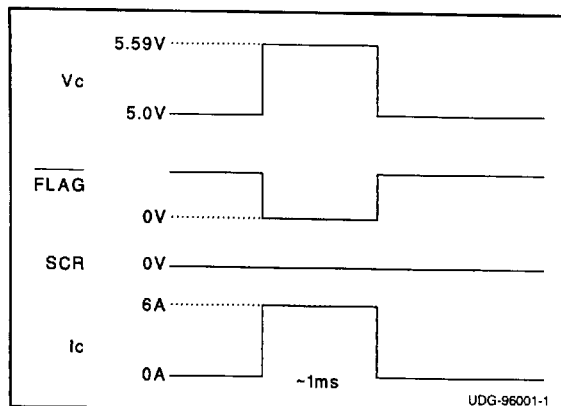
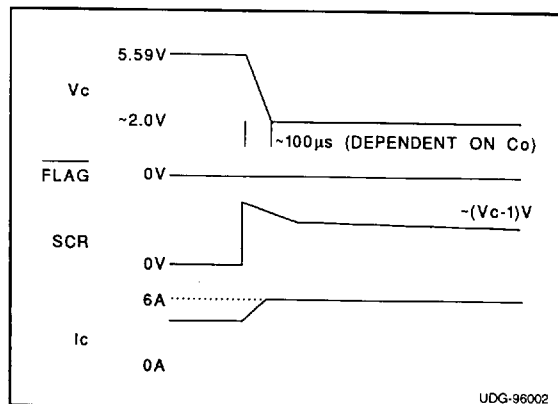

Figure 1. Shunt Regulation
Figure 2. Thermal Shutdown
Figures 1 - 4 illustrate typical behavior of the UC3908 under different operating conditions. In Figure 1, the part is made to shunt less than 17A (6A, in this example) during a short overvoltage situation and thermal shutdown and saturation are also averted. In this case, the part is shown regulating VC at a preset level which is set at 5.59V in the given design example. The FLAG output is low during this mode and SCR output is not activated. It is pulsed back down to zero after some duration to indicate that the external pulse has disappeared and the UC3908 becomes inactive again.
In Figure 2, the overvoltage condition of Figure 1 is shown to persist long enough for the internal thermal shutdown to be activated. As a result, the SCR output is asserted and the internal latch is also activated. The voltage (VC) is shown falling to about 2V which is the saturation voltage for the UC3908 at this level of current (6A). With an external SCR, the VC voltage could have been pulled to a much lower level.